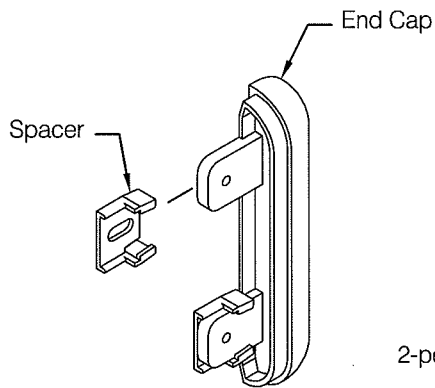
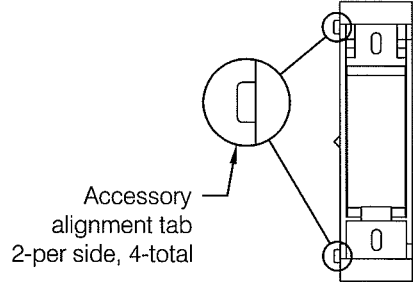
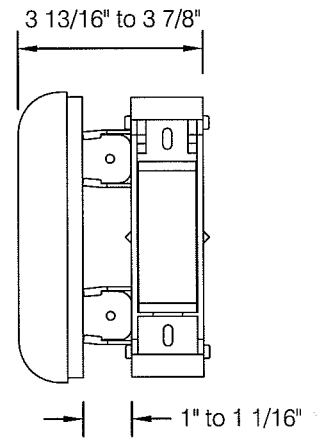

fig 4
fig 5
fig 6
- Step 3:** A Red-E-Clip® must be installed adjacent to each molded accessory. Begin by installing a spacer on each of the accessory mounting tabs, see **fig 4**. The Red-E-Clip® has four accessory alignment tabs used to facilitate positioning of the molded components with respect to the clip, see **fig 5**. Temporarily locate the accessory and Red-E-Clip® combination by holding them temporarily in their desired position. Remove the accessory and fasten the Red-E-Clip® in place. It is also possible to locate the clip by measuring 3 13/16" to 3 7/8" from the outer edge of the desired accessory location or 1" to 1 1/16" from the inner edge, see **fig 6**.